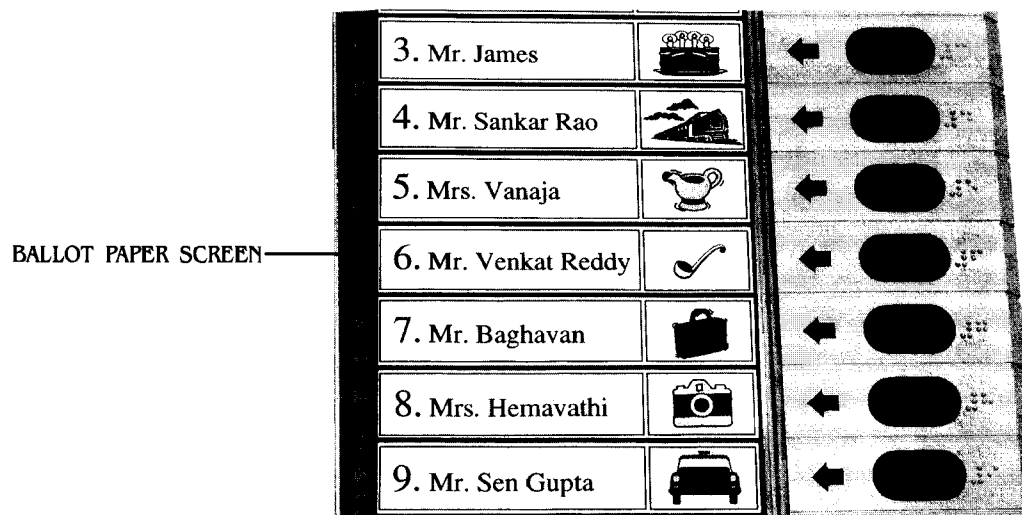

Fig.17 Properly Aligned Ballot Paper
5. Place the ballot paper in the space provided for the purpose on the upper side of the top cover. Align the ballot paper properly so that each candidate's name and his / her symbol are in line with the corresponding candidate's lamp and button. After ensuring this alignment, close and press fit the ballot paper screen to secure the ballot paper firmly underneath that screen (Fig. 17).